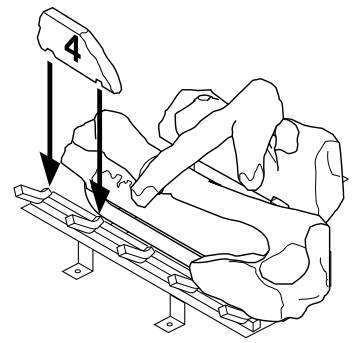

Figure 58 - Installing Log No. 4
4. Place log #4 (small log) onto the front left part of the grate making sure the notches fits over the prong of the grate. See Figure 58.